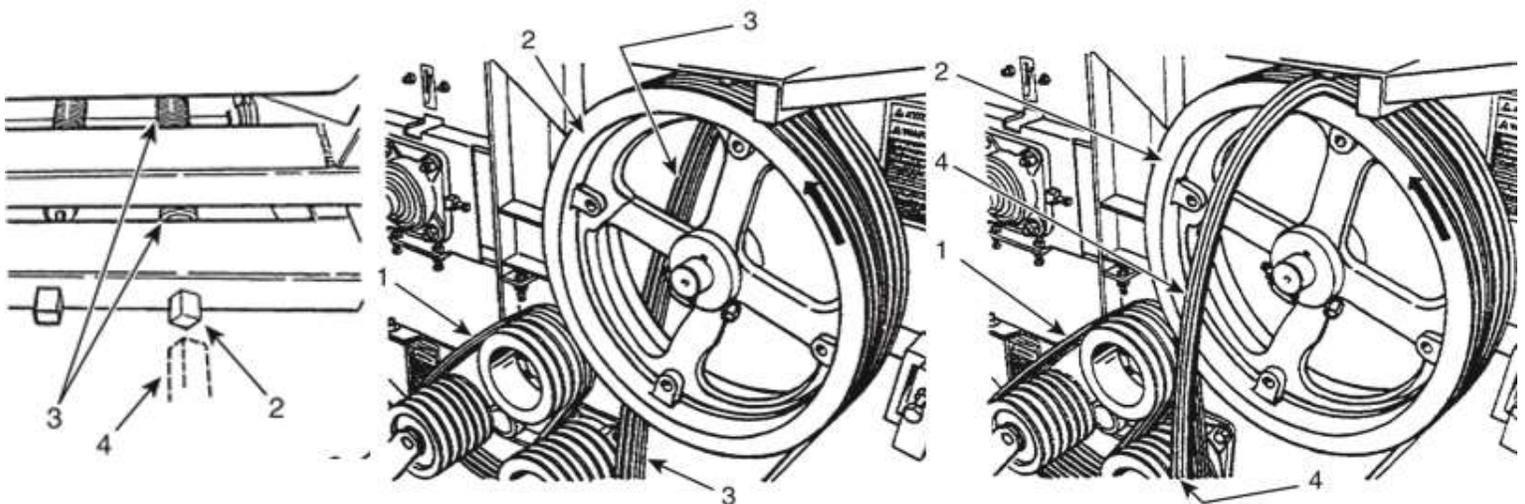

Figure 28 Belt Installation
STEP 8 - FIGURE 28
Start on the drive pulley side between the drive pulley and the machine body always rotating counter clockwise as shown in Figure 28 Belt Installation. First install belt #4, #5 and end with #6 (item 3).